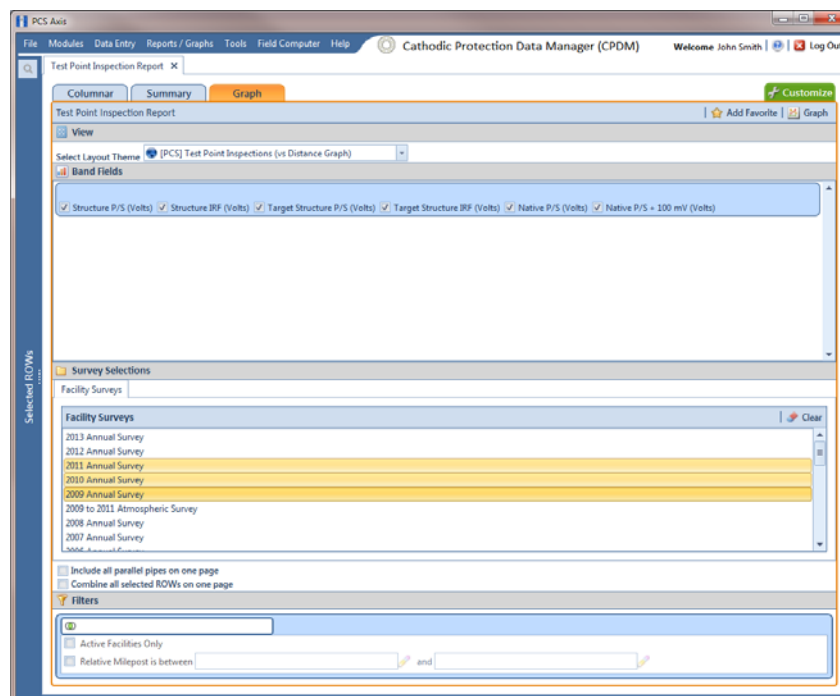

Figure 16-26. Test Point Inspection Graph Report
- 3 Click the **Graph** tab  to open a property settings window. For example, the next figure shows the property settings window for the *Test Point Inspection* graph (Figure 16-26, page 699).